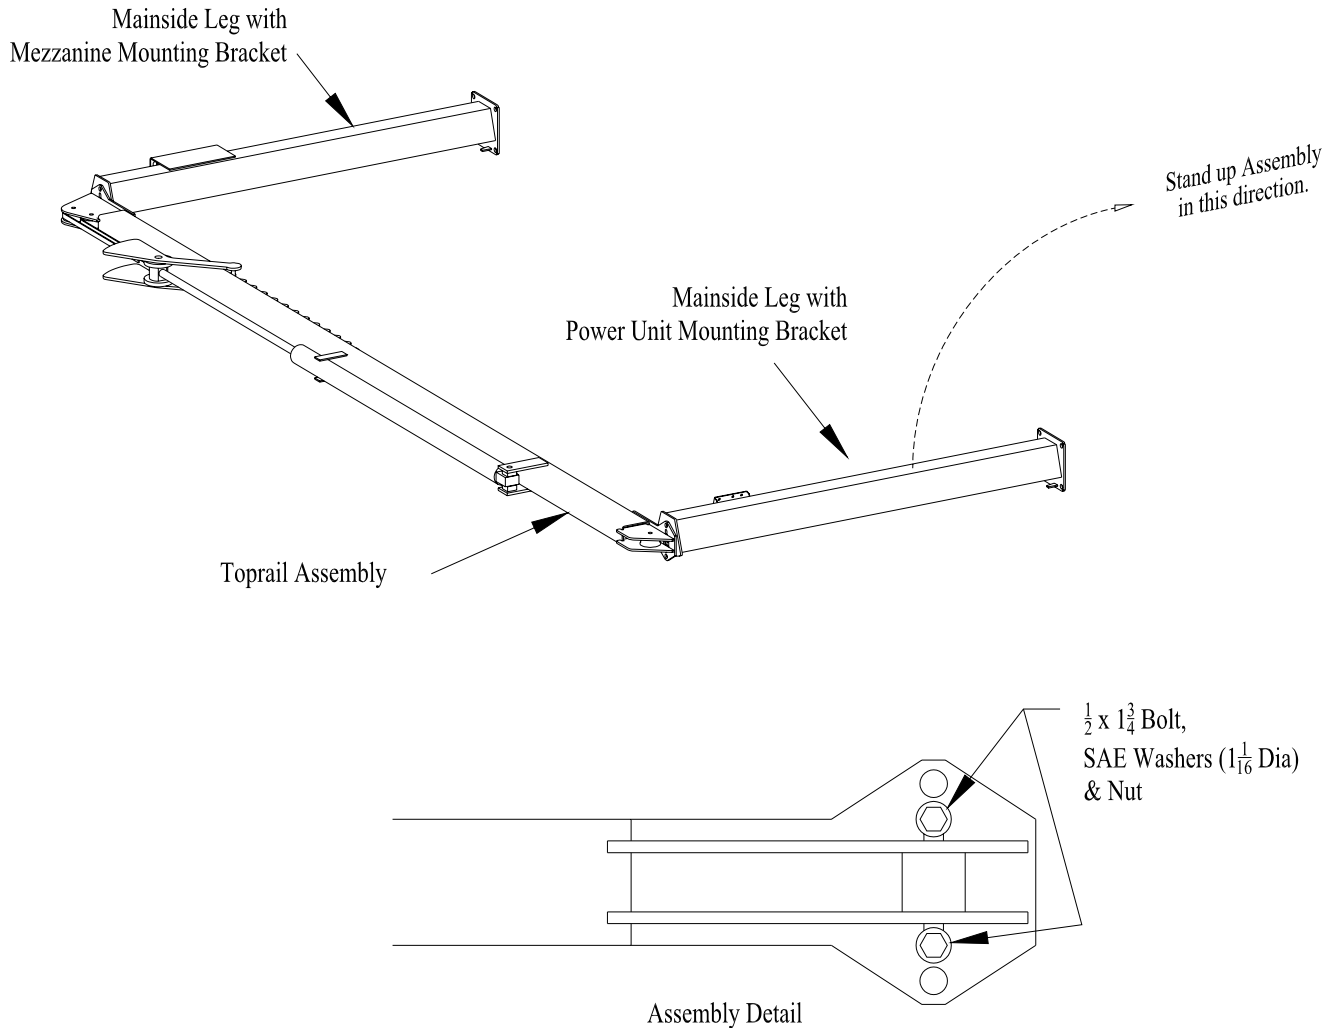

Figure 5
4. Position one toprail and one set of mainside legs for the starting bay as shown in Figure 5. The toprail should be oriented with the cylinder's pinned end to the rear of the lift and resting on blocks to assist in positioning the legs. The Power Unit leg has a formed bracket on one side for mounting the power unit. This leg should be located on the rear of the lift. The mainside leg with the mezzanine mount bracket should be at the front. Bolt the top rail to the mainside legs using the 1/2 x 1-3/4 bolts, washers, and nuts provided.